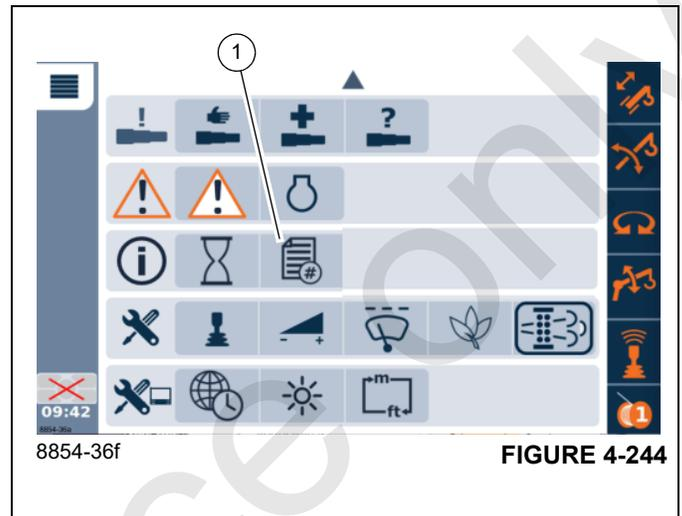

FIGURE 4-244
Select the Software Versions Icon (1), (Figure 4-244), under the Information Menu Group, to view the Software Versions function screen.